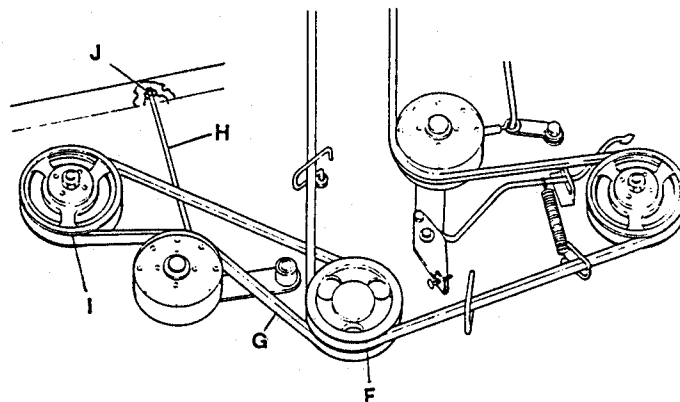

FIGURE 54
4. Loosen Nut (J) on Belt Adjusting Rod (H) until Belt (G) can be removed from center and right Spindle Pulleys (F and I). See Figure 54.